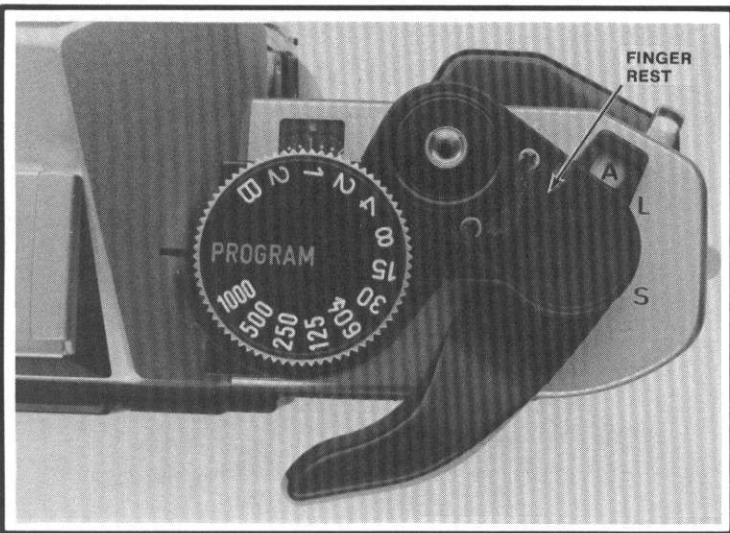

Figure 9
8. Remove the finger rest, Fig. 9, by taking out its two screws.